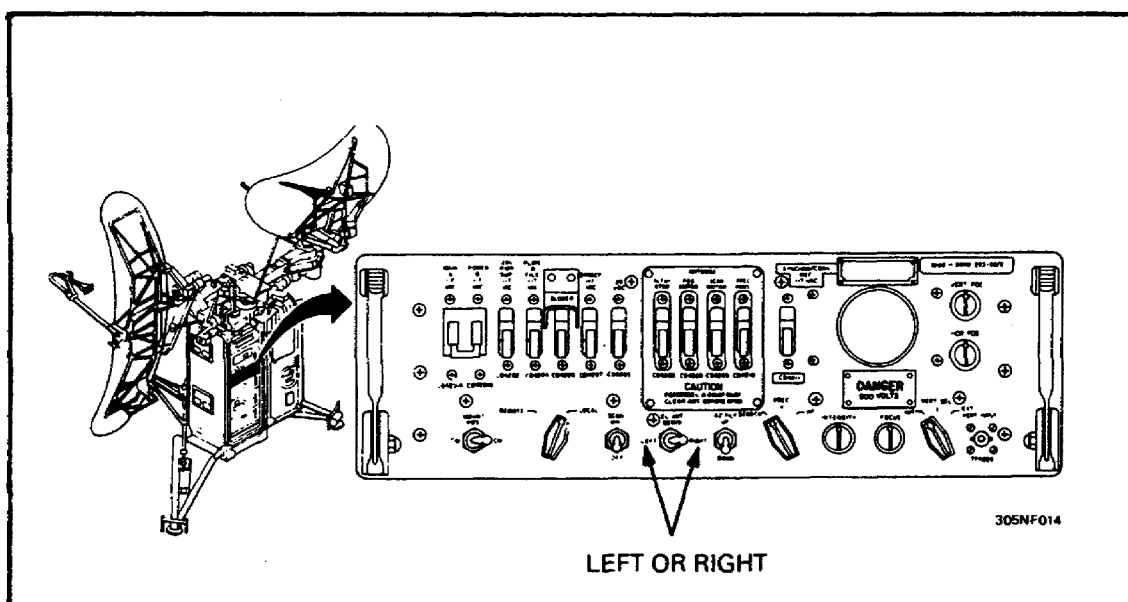

Figure 30. Control monitor C-2124A/FPN-33 and elevation servo.
g. Push the EL ANT SERVO switch S4205 left or right to position the elevation antenna AS-1080/FPN-40 to indicate 0° on the elevation servo protractor. (See Figure 30.)